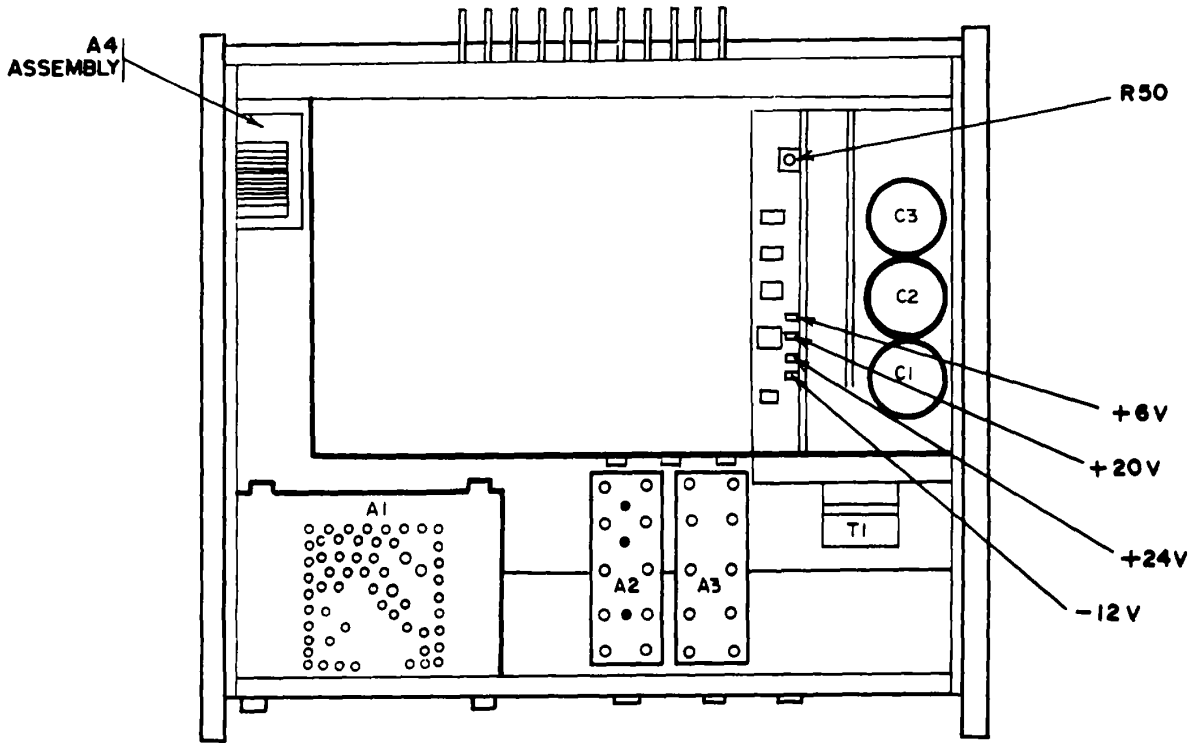

Figure 2. Top chassis view - component location.
(2) Adjust reference oscillator COARSE and FINE controls on A4 assembly (fig. 2) to obtain minimum frequency difference on frequency difference meter (A4).
(3) Allow 24 hours for reference oscillator stabilization. Frequency drift as indicated on frequency difference meter will be less than 3 parts in 10^{-9} .
(A3) to +24 V test point (fig. 2) and chassis ground, using two leads (B5). If dc voltmeter does not indicate between 23.990 and 24.010 V, perform b below.
b. *Adjustments.* just R50 (fig 2) for a 24.00-V indication on dc voltmeter (R).